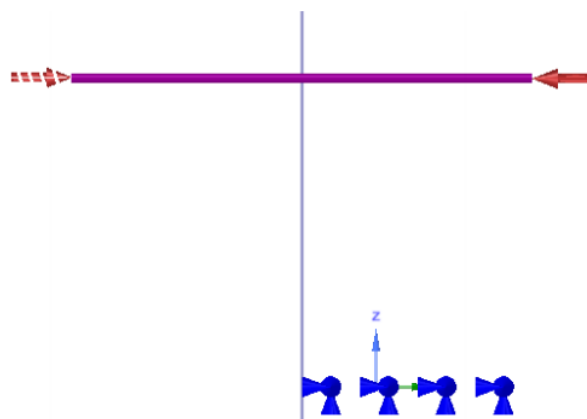

Figure 102 - Optimization using "Symmetric" mirroring properties
- **Symmetric:** load is applied simultaneously on both sides of the mirroring plane, with the direction of the load reflected (Figure 102).